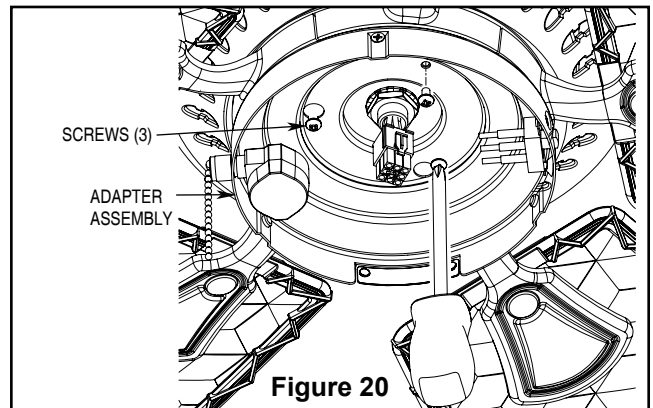

Figure 20
- 2. Remove one of the three screws in the support bracket. Slightly loosen the remaining two screws. Assemble the adapter assembly to the housing support bracket using the two key slots in the adapter assembly. Replace the third screw and securely tighten all three screws. (Figure 20)